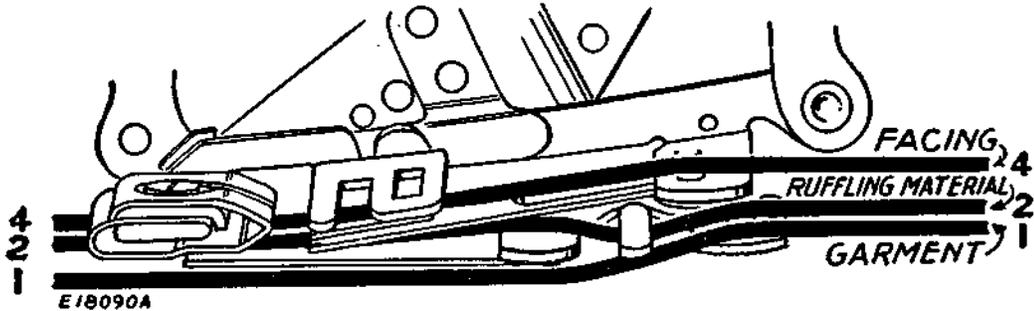

FIG. 65. CORRECT POSITIONS FOR THE MATERIALS
- (1) Insert the material to be ruffled between the two blue blades **Line 2, Fig. 65.**
- (2) Place the material to which the ruffle is to be attached under the separator blade **Line 1, Fig. 65.**
- (3) Place the facing material over the upper blue blade **Line 4, Fig. 65.**